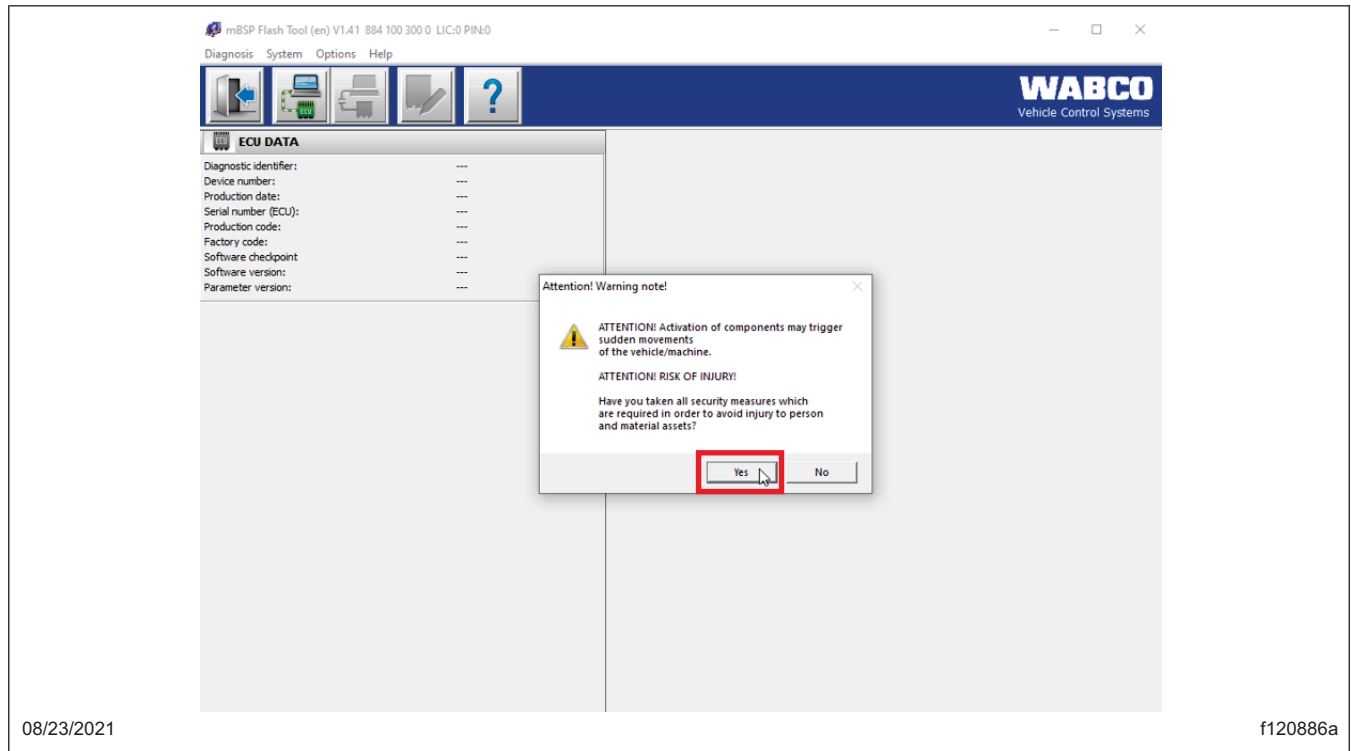

Fig. 26, Accepting the Warning
11. The program will open with a warning note. See Fig. 26. Read the warning note. If the vehicle is secure, select 'Yes.'